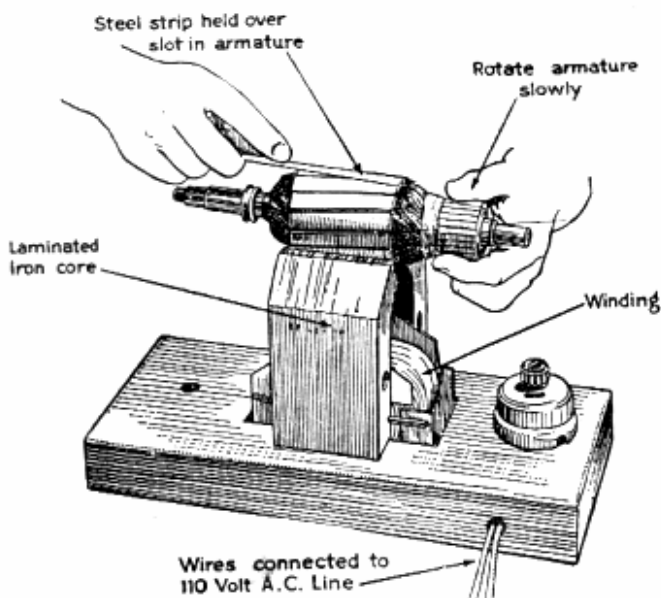

Fig. 37
5. If the trouble has not yet been located, check the armature for short circuit, using a "growler" as illustrated in Figure 37. A thin strip of steel, such as a discarded hack-saw blade, held in place over the armature core as the armature is revolved, will vibrate if a short circuit exists in the armature. Repair or replace as required.